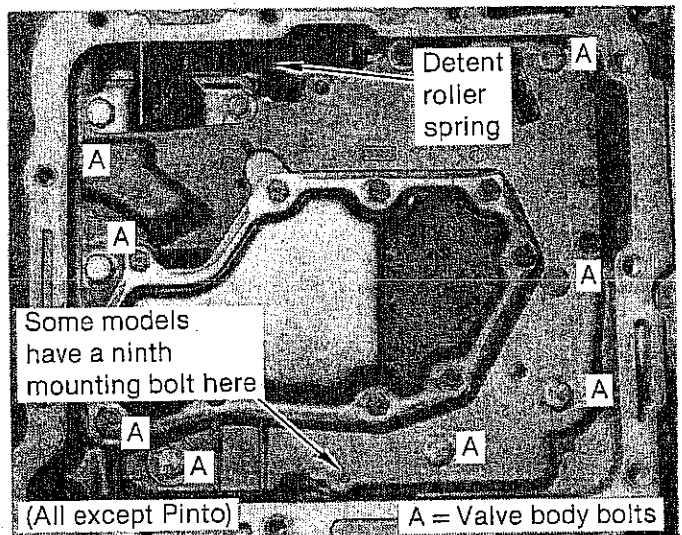

FIGURE 4
STEP 1. Remove oil pan bolts and remove oil pan. Use your oil pan for a parts tray. Note the position of the detent roller spring. (See Fig. 4)